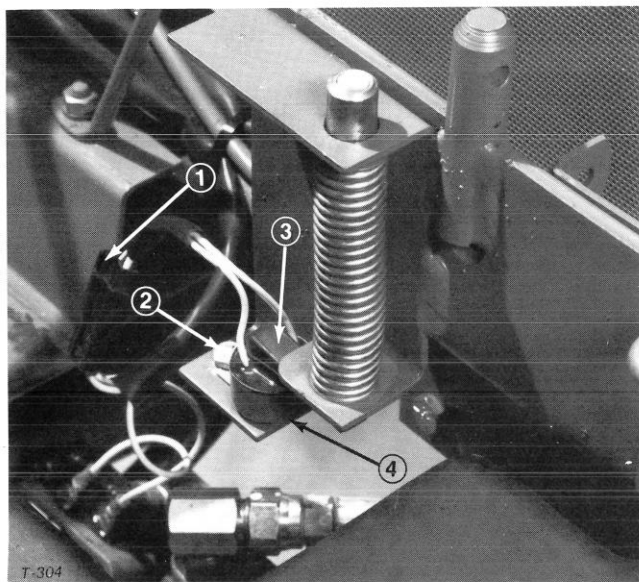

Figure 41
2. Remove instrument cover, disconnect negative battery cable from battery and separate wire harness connectors (Fig. 41). Remove capscrew and locknut (Fig. 41) and lift switch up to disengage locating pin on bottom of switch from hole in mounting bracket.
3. To install new switch, set it on mounting bracket (Fig. 41) and assure locating pin on bottom of switch fits into hole in bracket. Secure switch in place with capscrew and locknut.